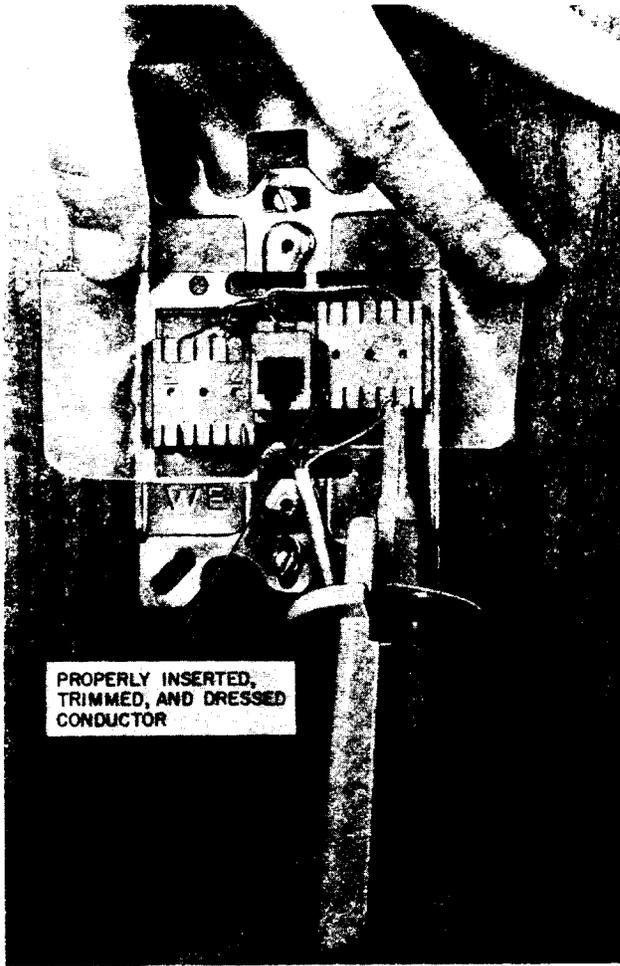

Fig. 18—Terminating Wire With Lead Insertion Tool in 630A4 Connecting Block
**Note:** The 630-type connecting blocks manufactured after March 1977 are received from the factory with a plastic protective wrapper folded around the quick-connect terminals. To connect station wire, fold out the front and side flaps, make connections and dress leads (Fig. 18 or 19),
- (1) Leave station wire conductors unstripped.
- (2) Dress the conductors so they will not be pinched or cross over each other.
- (3) For 630A4 connecting block, use the lead insertion tool to seat conductors in bottom of slots (Fig. 18). Do not use a screwdriver to insert wires. Do not twist or rock insertion tool and allow suffi-